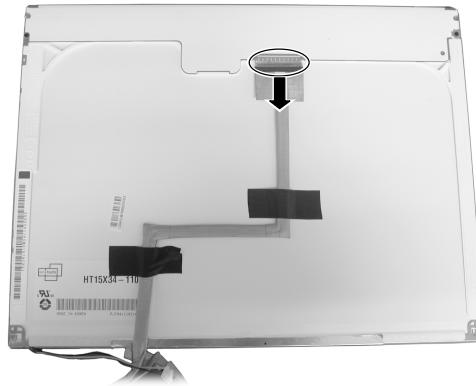

Figure 2-25 Free the LCD panel
5. Disconnect the cable and free the LCD panel. (Figure 2-25)